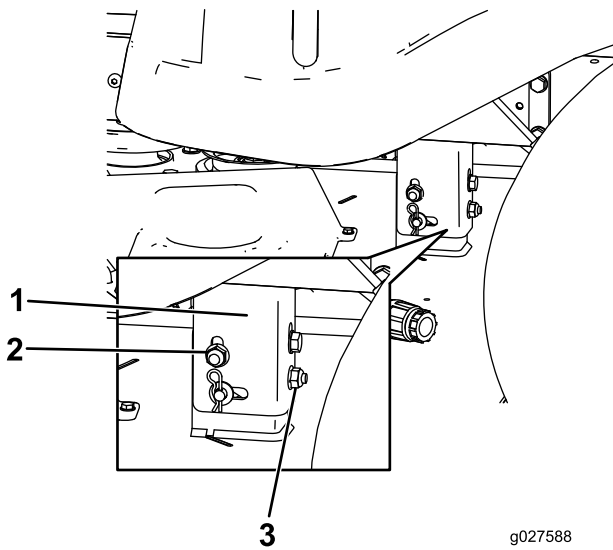

Figure 59
8. Raise or lower the left side of the mower deck by rotating the rear nut. (Figure 59).